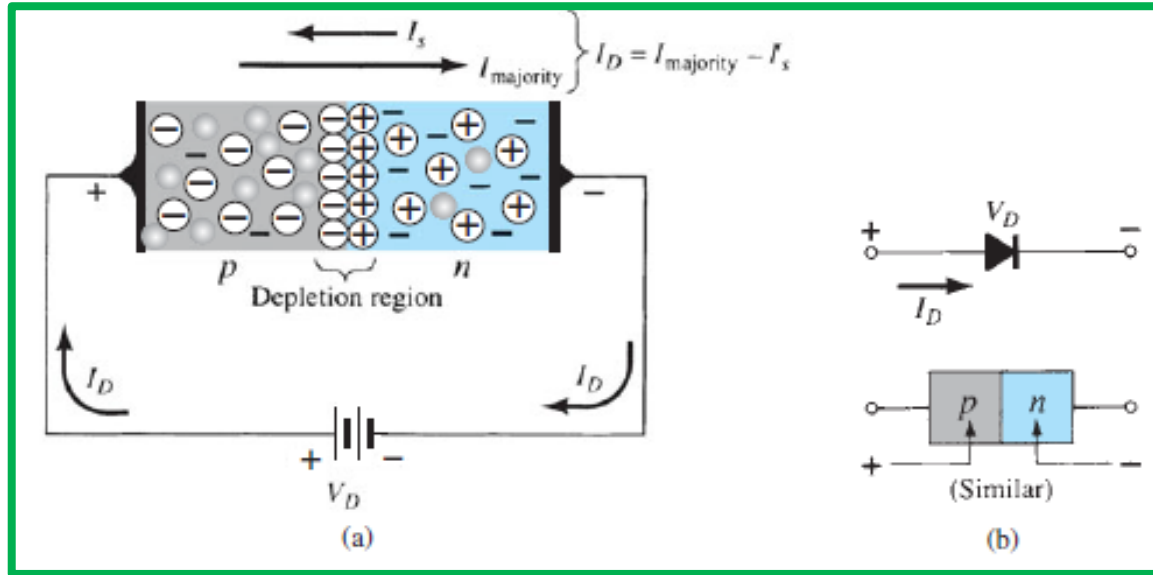

Figure 1.12: (a) internal distribution of charge under reverse-bias; (b) Forward-bias polarity & resulting current direction.
- ✓ This **reduces the width** of the depletion region as shown in Figure 1.12.